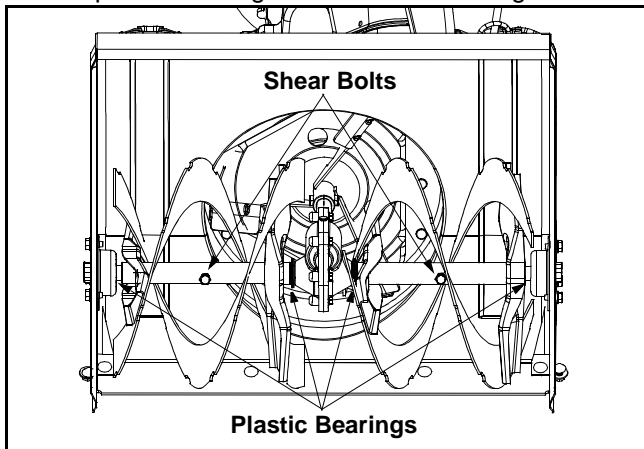

Figure 14
- At least once a season, remove the shear bolts on the auger shaft. Oil or spray lubricant inside and on the plastic bearings on the shaft. See Figure 14.
The augers are secured to the spiral shaft with two shear bolts and hex lock nuts. Refer to Figure 14. If you hit a foreign object or ice jam, the snow thrower is designed so that the bolts may shear. If the augers will not turn, check to see if the bolts have sheared.